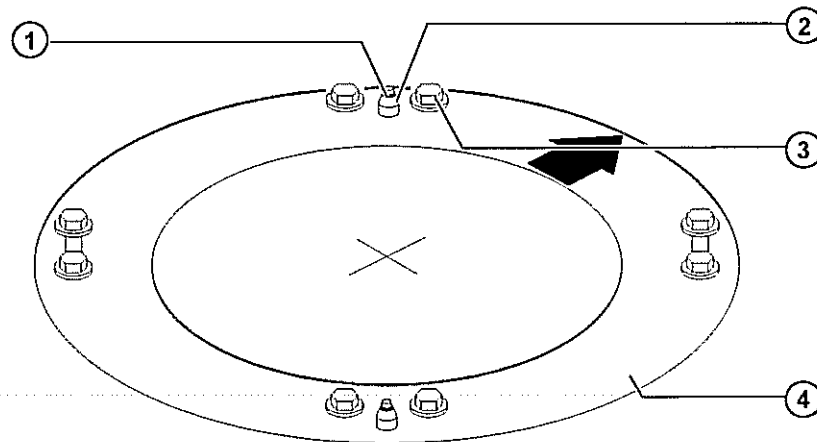

Fig. 8-2: Installing the machine frame mounting assembly
Procedure	1. Clean the mounting surface (>>> Fig. 8-2) (3) of the robot. 2. Check the hole pattern.